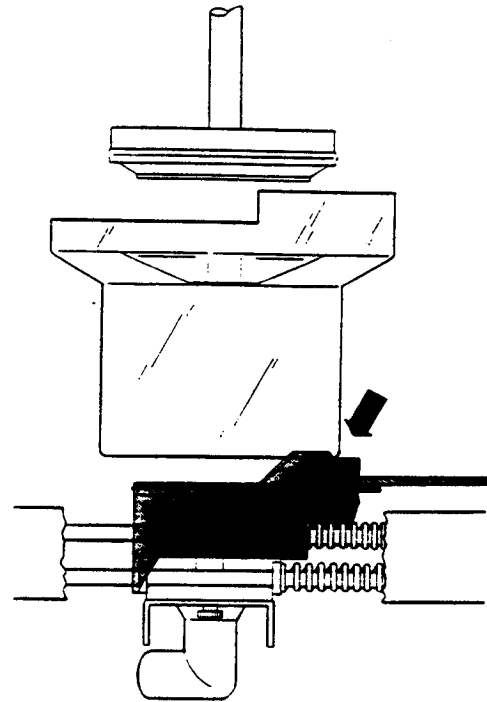

FIGURE 3.9
4. If the carriage was not correctly behind the cylinder and is being forced back out of the way or the cylinder is resting on top of the alignment shoulder of the brew carriage (see FIGURE 3.9) and causing the brew water to leak from between the cylinder and the brew chamber, then an adjustment of only one or two teeth to shorten the cable is needed - go to step 9. If the original adjustment has been lost, then a 'scratch' adjustment will have to be made - continue to step 5.